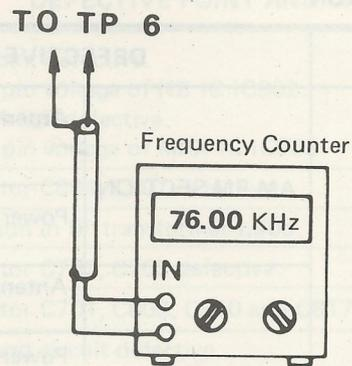

Fig. 10
- (D) FM MPX circuit alignment
- Align trimmer resistor VR903 until the indication of frequency counter indicating 76 kHz. (See Fig. 10)